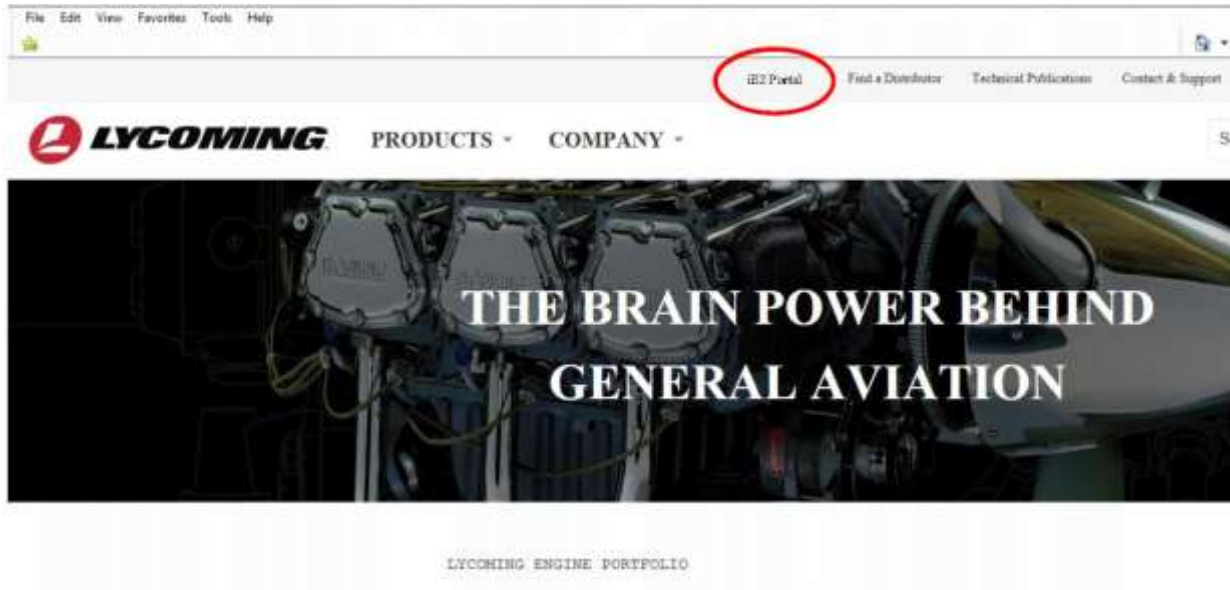

Figure C-3
2. Click on the iE2 Portal tab in the ribbon at the top of the page (Figure C-3).